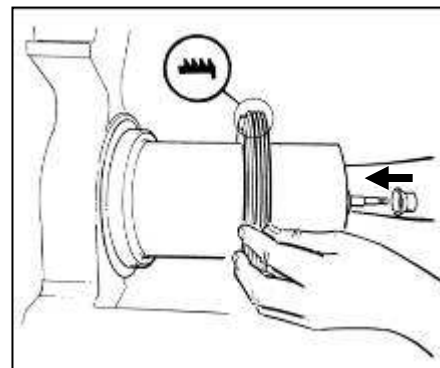

Fig. 20
- Reassemble the rear gasket and the bell shaped one, respecting the correct direction as indicated in figure 20.